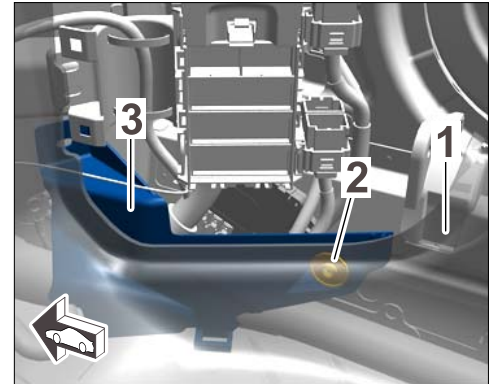

Figure 5
- 1.11 Screw off fastening nut ⇒ *Figure 5 -2-* on the wire harness cover ⇒ *Figure 5 -3-* at the right.